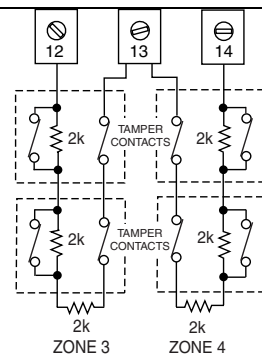

Fig. 7. Typical Double Balanced Zones
3. Connect 4-wire smoke detectors (up to trigger output 17’s maximum current draw 100mA) to any zone from 2-8 as shown in Figure 7 (on next page).